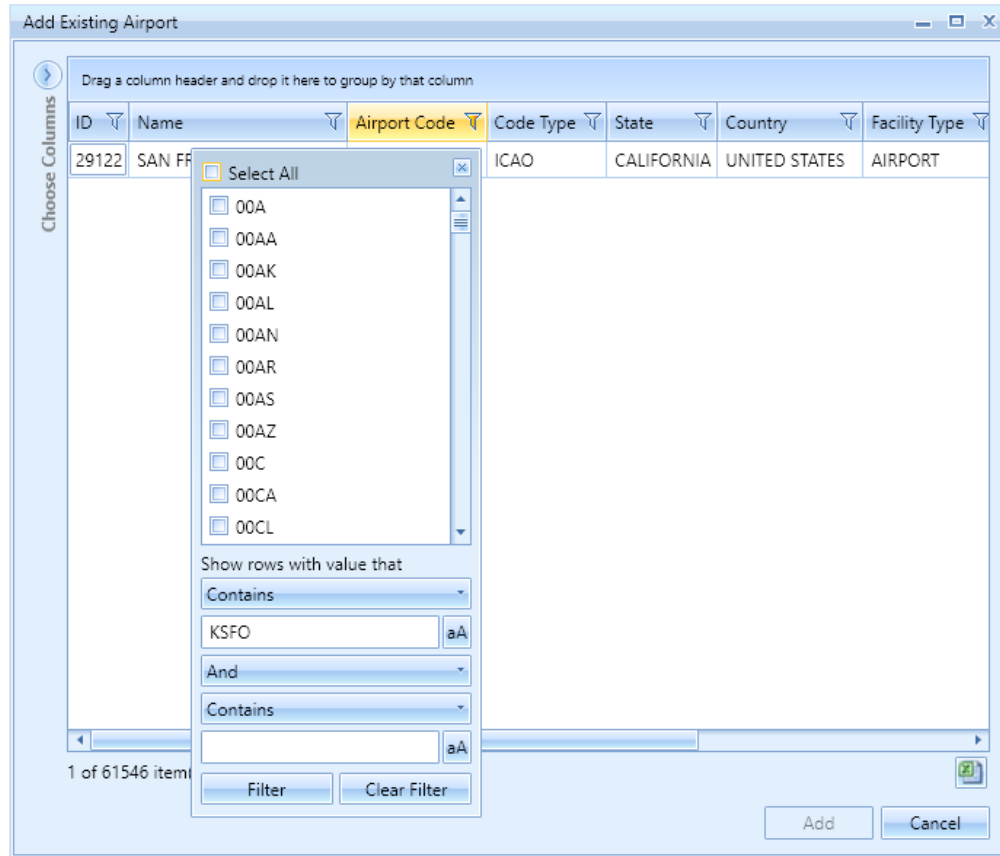

Figure 4. Add Existing Airport Dialog
3. In the *Add Existing Airport* dialog (Figure 4):